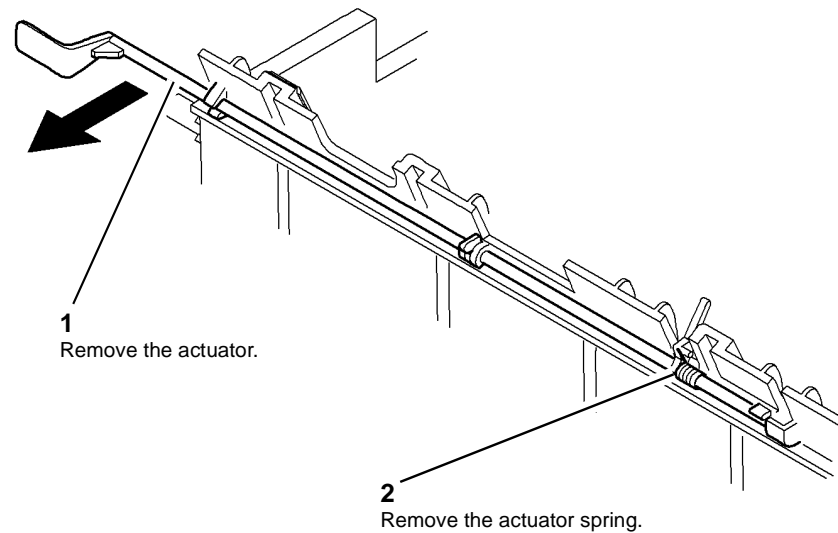

Figure 1 Actuator removal
2. Remove tray 3 feed sensor actuator, Figure 1.